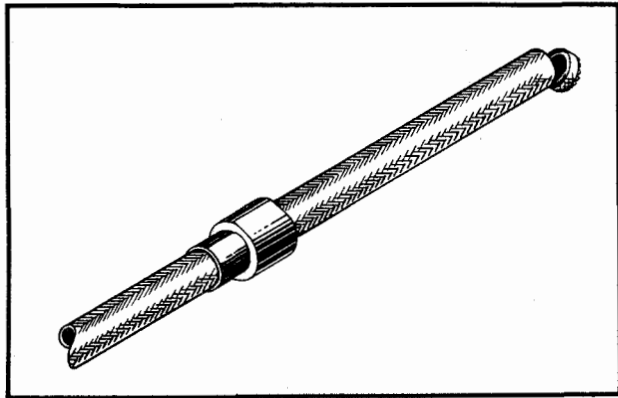

Figure 58
Step 47 (Figures 58 to 70 inclusive)
B—Slide clamping sleeve and nut assembly over cable. See Figure 58.